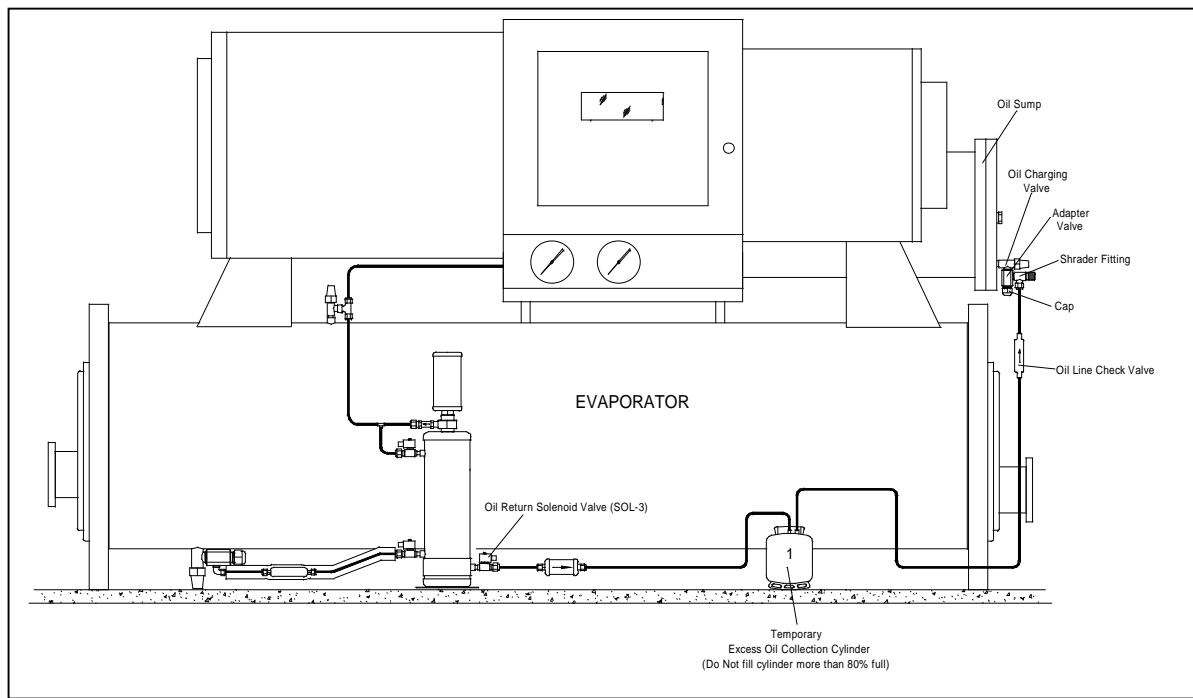

Figure 2. – CORRECT Optional Oil Collection Cylinder Hook-up
Option 2: Plumb the “**Oil Return Line**” as per “**Option (2)**” **Piping Instructions (see page 19)**. As determined by previous calculation, install sufficient containment capacity, **such as a single 50, 100, 200, etc., pound refrigerant recovery cylinder**, in the “**Oil Return**” line between the OAM Purger and the Chiller’s oil sump. The cylinder will retain and hold the excess oil as it is stripped from the refrigerant, preventing it from accumulating in the oil sump. **NOTE** that the rated capacity of a refrigerant recovery cylinder is for refrigerant which is heavier than oil, therefore a refrigerant recovery cylinder will not hold the same weight of Oil as the rated refrigerant capacity. **(See Figures 2 & 3 on page 22 which includes approximate oil holding capacities of various size refrigerant recovery cylinders.)** Once the stripping process is complete the cylinder and excess oil must be removed from the system.
CAUTION: DO NOT connect multiple cylinders in series. The excess oil collection hook-up MUST be limited to a single cylinder: i.e., a single 50, 100, or 200 lb., etc. cylinder, and MUST not be filled to more than 80% of its rated capacity. NOTE that the rated capacity of a refrigerant recovery cylinder is for refrigerant which is heavier than oil, therefore a refrigerant recovery cylinder will not hold the same weight of Oil as the rated refrigerant capacity. (See Figures 2 & 3 on page 22 which indicates the approximate oil holding capacities of various size refrigerant recovery cylinders.)
2. Plumb the selected excess oil containment vessel in the Oil-Return line **precisely** as illustrated in **Figure 2 on page 22**. Remember to install the check valve (provided in the OAM Purger Installation Kit) in the oil return line between the containment vessel and the oil sump, **as shown in figure 2, on page 22**. The **check valve** MUST be installed it prevents back flow of oil from the oil sump into the oil containment vessel.
CAUTION: Option (2) is intended only as a convenient method of dealing with excess oil. You MUST still occasionally monitor the oil sump for excessive oil accumulation since there may be more excess oil than anticipated. Refer to approximate oil holding capacities of the refrigerant recovery cylinders under Figure 2 on page 22.